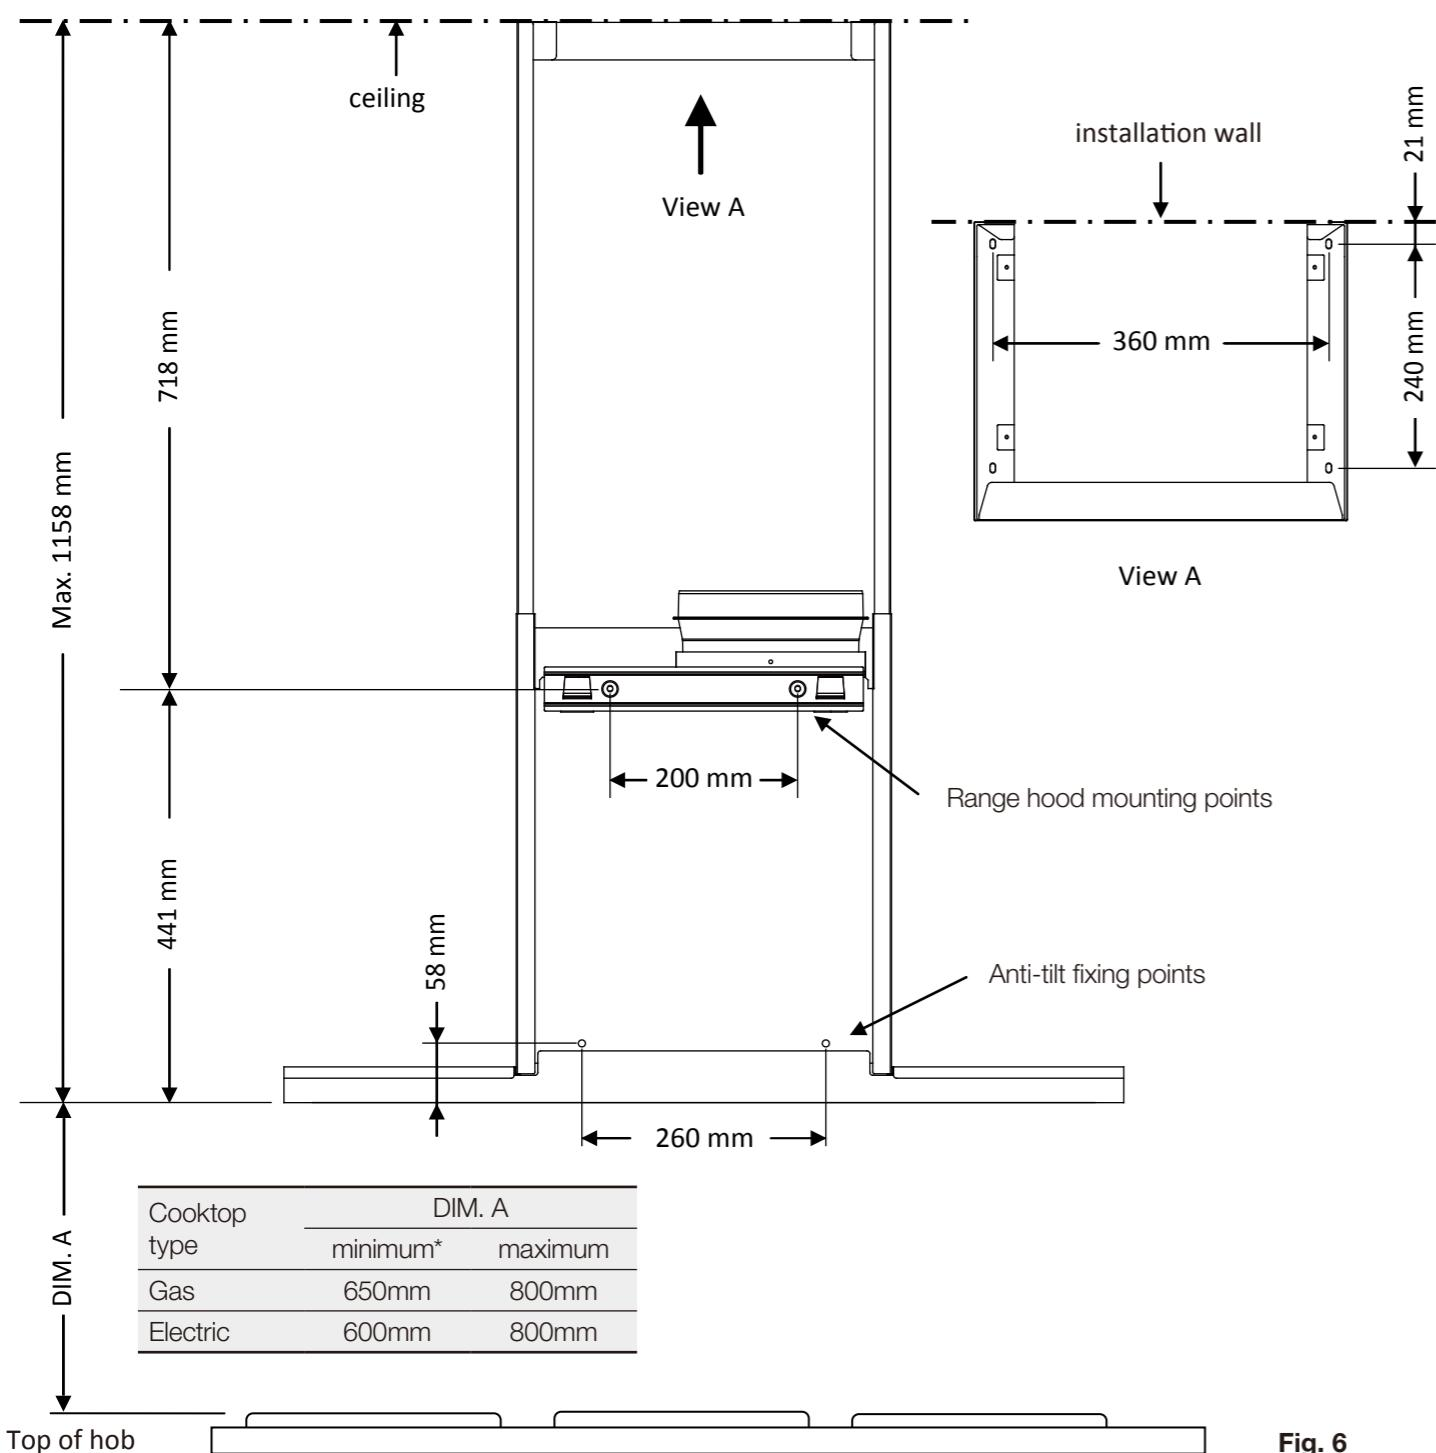

Fig. 6
- Install flue cover wall mounting brackets with suitable fixings. Install suitable screws for cooker hood mounting points (to support a total weight of 30kg) to the wall as marked (Fig. 6).